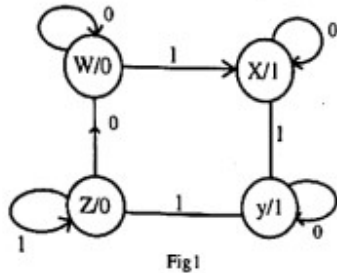

Fig 1
- Q.2 The state diagram of a FSM is given below (Fig 1).